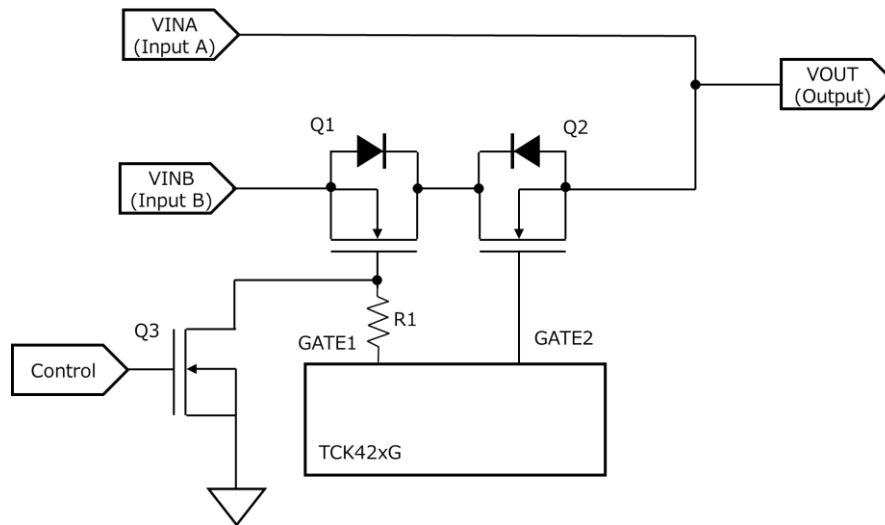

Fig. 4.4 MBB Operation Circuit
The MBB operation outline of this circuit is described below. The MBB operation circuit shown in Fig. 4.4 assumes that $V_{INA} > V_{INB}$ and V_{INB} is continuously energized.
- ① 9 V is applied to VINB, and VINB voltage (about 9 V) is sent to the output.
- ② When 20 V is applied to VINA, the FLAG output becomes High (approx. 5 V). And VINA driver (TCK421G) starts operating at this timing.
- ③ In VINB driver circuit, the gate-shut-off MOSFET SSM3K15ACTC corresponding to Q3 in Fig. 4.4 is turned on, and the MOSFET corresponding to Q1 in SSM10N961L is turned off. During the start-up time t_{ON} after TCK421G is turned on in ② (about 3 ms), the voltage dropped by the forward voltage of the body diode of Q1 from VINB voltage is output to VOUT.
- ④ VINA voltage (about 20 V) is output after t_{ON} period of TCK421G from the time it turned on in step ③.
- ⑤ When the applied voltage of VINA becomes 0 V, FLAG output becomes Low (0 V).
- ⑥ Since VINA voltage became 0 V, the Gate Shut-off MOSFET corresponding to Q3 in Fig. 4.4 is turned off, and the MOSFET corresponding to Q1 in SSM10N961L starts turn-on operation. During this time, voltage dropped by the forward voltage of the body diode of Q1 from VINB voltage is output to VOUT.
- ⑦ The MOSFET corresponding to Q1 is turned on and VINB voltage (approx. 9 V) is output.